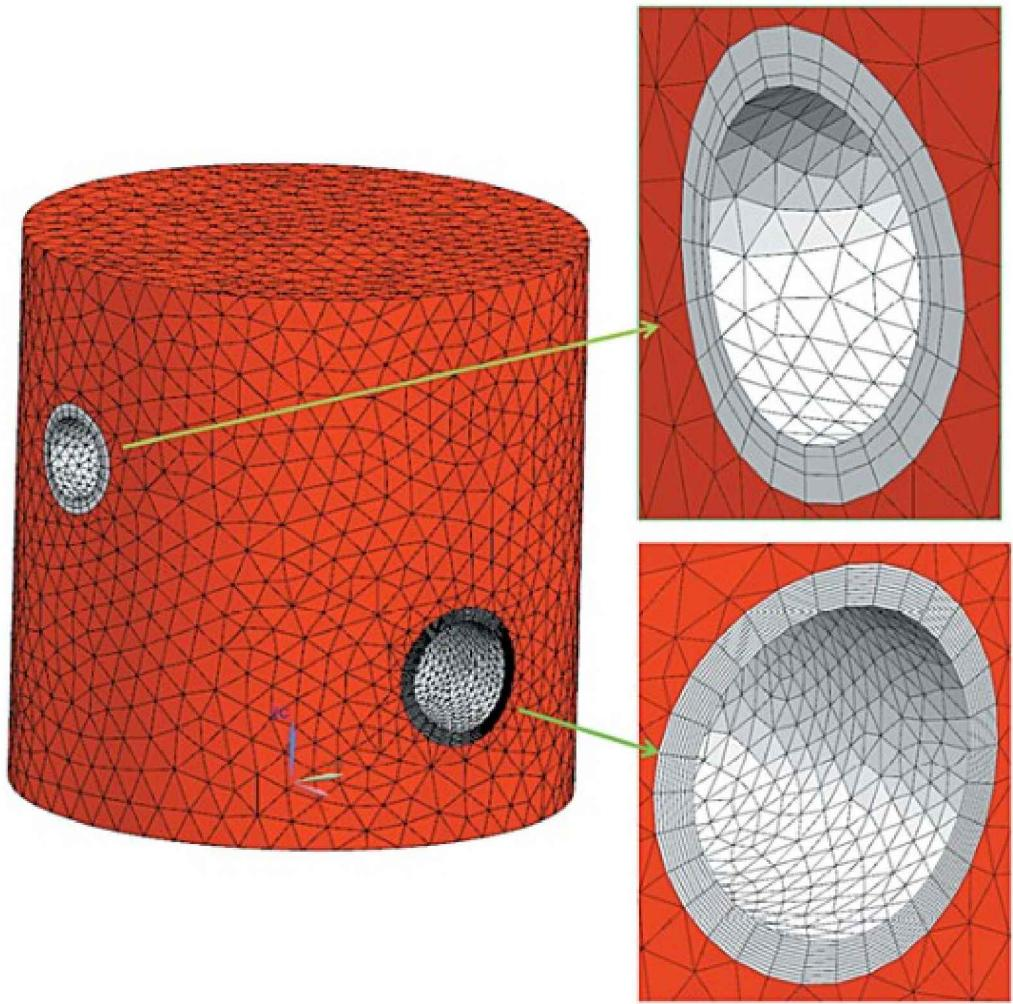

Figure 6.4. Results of the automatic mesh constructor with different wall-boundary mesh biasing parameters
- Select the *Specify Local Surface Mesh Density* check box to override the parameters of the wall-boundary mesh that are subsequently used in generating the prismatic wall-boundary mesh. For example, you can construct differently biased meshes for different surfaces (Figure 6.4).